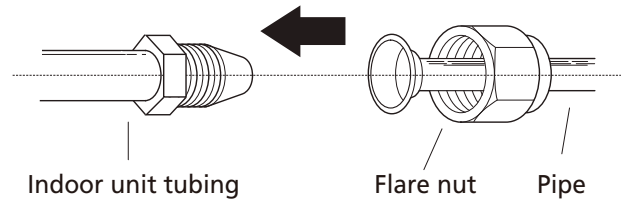

Fig. 5.7
- Align the center of the two pipes that you will connect making a 45° flare connection. See Fig. 5.7.